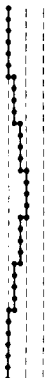

Fig. 31
**STITCHING** See Fig. 31: Straight stitching on one of the infinite lines between the ex-